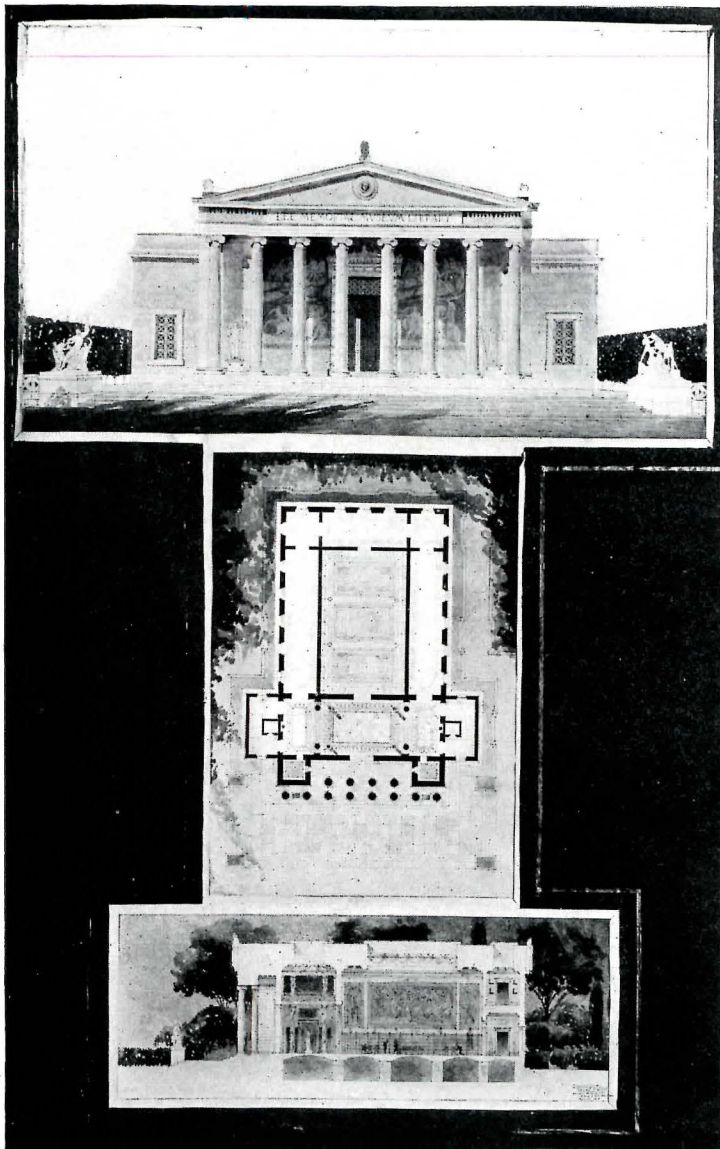

Figure 101. Class B. Problem. "A Small Memorial Art Library and Museum," E. Eastcourt, Atelier Hiron.
4. Open-mindedness. In order to develop ability in arriving at a "parti," one must be willing to try all possible schemes, and not be satisfied with the first that suggests itself and seems to meet all requirements. Figures 101 and 102 are different solutions of one program; they each satisfied all conditions. The proper attitude in making an esquisse for any problem is to visualize all possible solutions, and then to choose the best; or if, no one stands out as such, as is the case in simple problems, then to choose that solution which is most interesting to the student, as its development will tend to make him use his best talents.